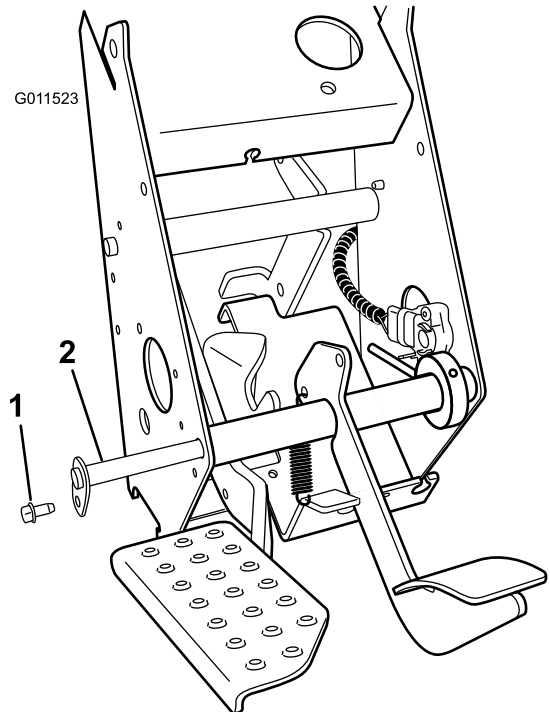

Figure 2
2. Remove the bolt retaining the pedal assembly pivot rod (Figure 2). Remove the pedal pivot rod.